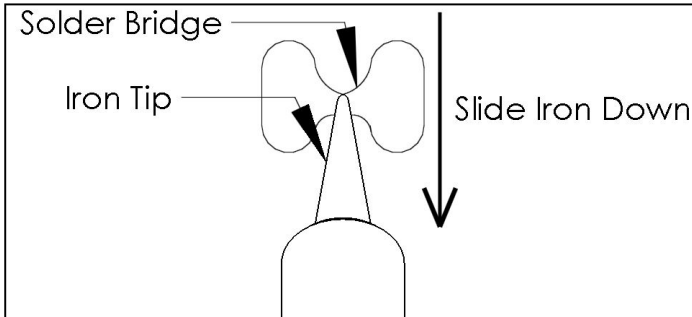

Figure 5: Drag Iron to Remove Solder Bridge
2. Drag the iron tip straight through the solder bridge as shown in Figure 5 .